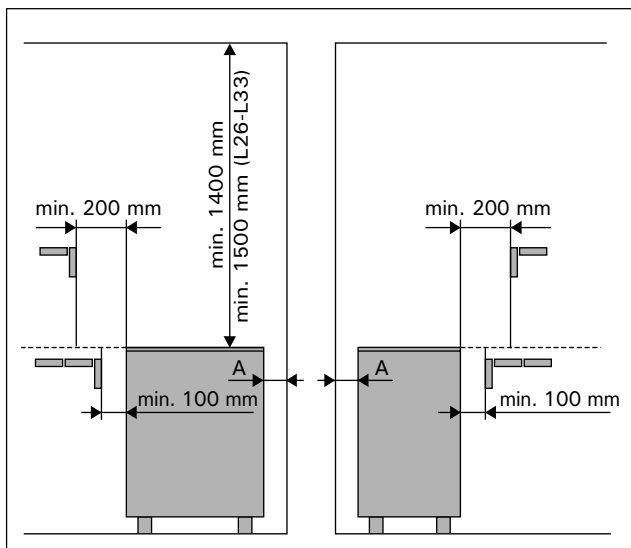

Figure 3. Min. safety distances
- The location of the heater fulfils the minimum requirements concerning safety distances given in fig. 3 and table 1.
Before fixing the heater, the minimum safety distances to combustible materials must be taken into consideration. See Table 1 and Figure 3.